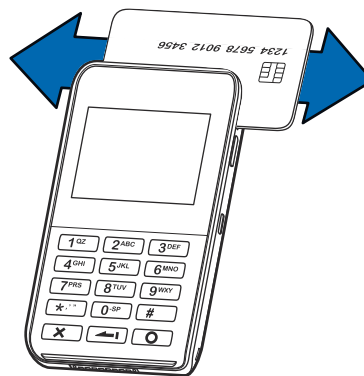

Figure 9 Using Magnetic Stripe Card
- 2 To ensure a proper read of the magnetic swipe card, insert the magnetic card from the top of the device, as shown in Figure 9.